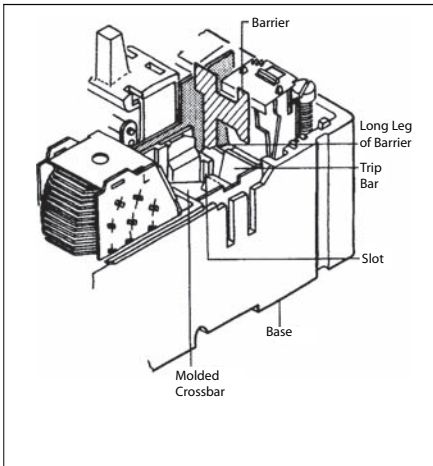

Fig. 2-4. Barrier Installation Position.
- a. Slide barrier into position between molded crossbar and trip bar. Long leg of barrier must go into slot in base (see Fig. 2-4).